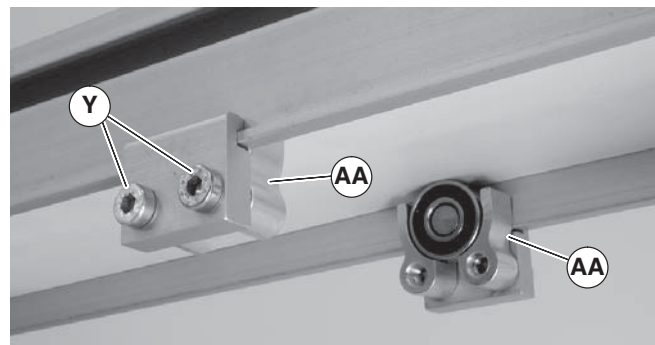

Figure 10
3. Install roller assemblies (Figure 10, item AA) as shown. Tighten screws (Y) to 60 in-lb (7 Nm)